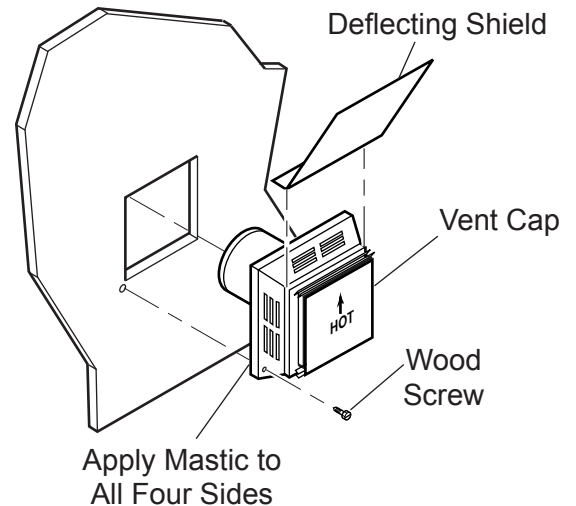

Figure 22 - Installing Horizontal Vent Cap
4. Apply a bead of non-hardening mastic around the outside edge of vent cap. Position the vent cap in the center of hole on the exterior wall with the word "UP" on the vent cap facing up. Insure proper clearance of 1" to combustibles is maintained. Attach the vent cap with four wood screws supplied. See Figure 22.